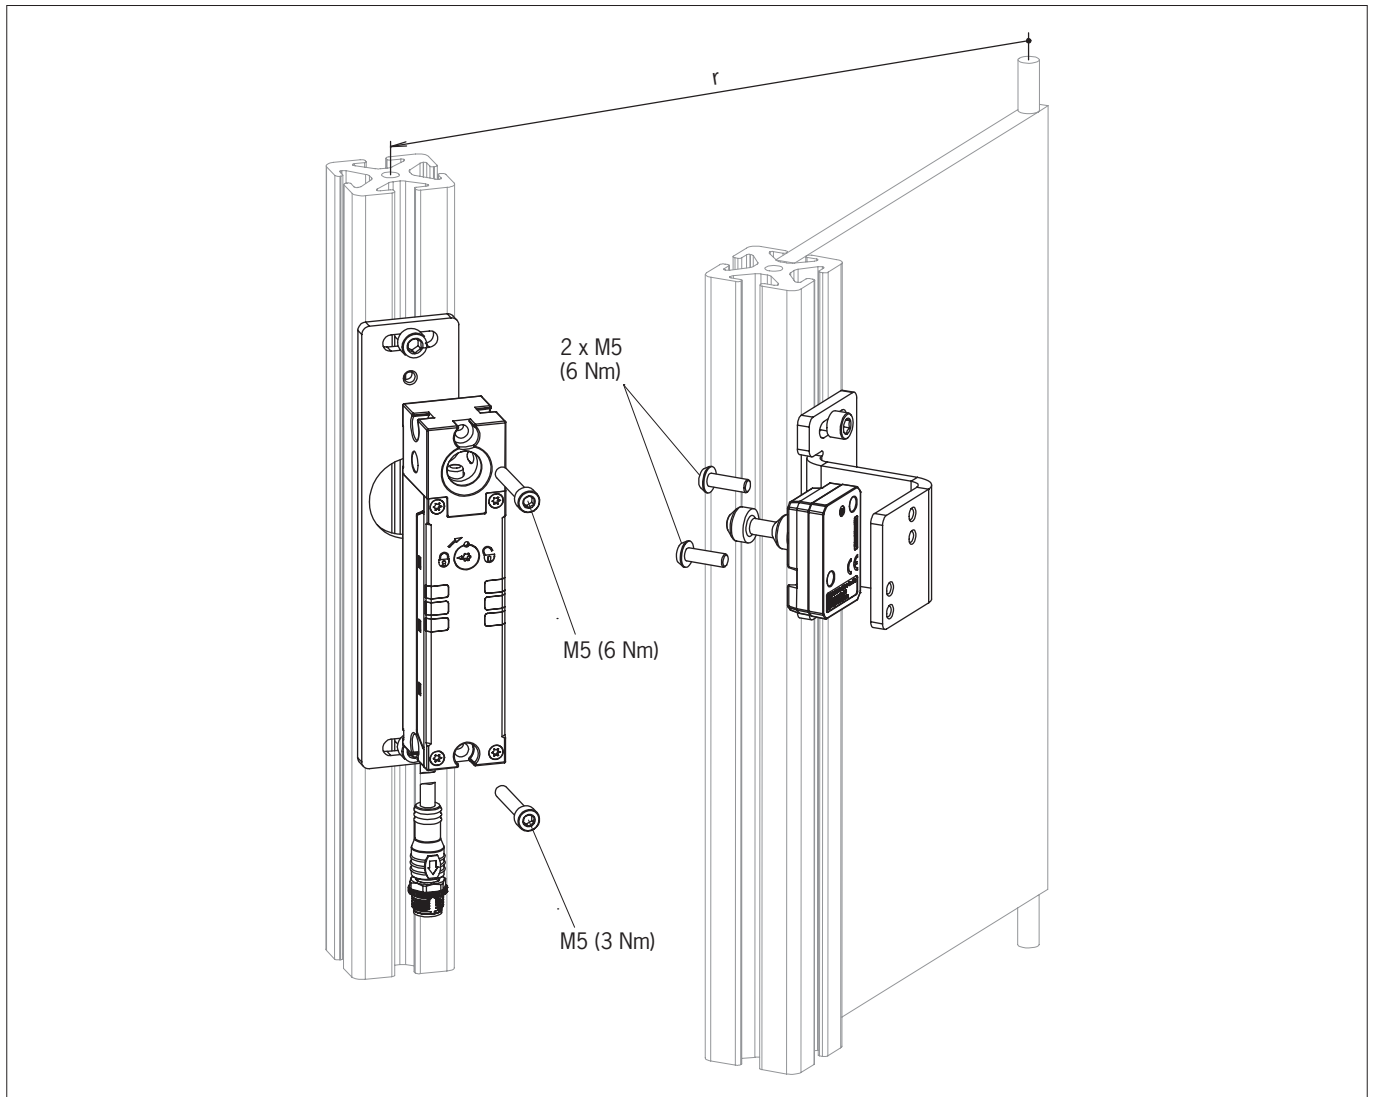

Fig. 3: Installation example
- Observe the tightening torque for mounting the switch and the actuator (see Fig. 3):